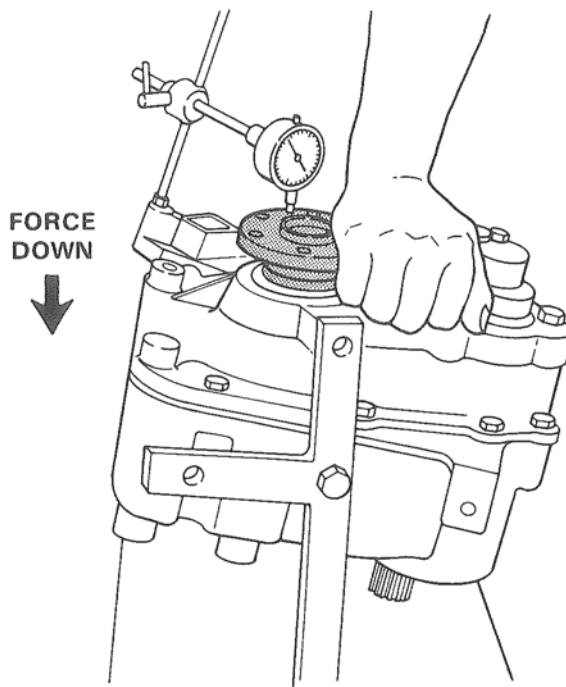

Figure 44. Checking End Play-Downward Force Used.
7. Turn the unit over in the stand and mount a dial indicator on the rear cover so the stem or finger rides on the output flange. Mark a spot on the flange next to the indicator stem. Figure 44.
8. Apply 100-300 lbs. force downward on the flange while rotating the output shaft through two (2) full turns. Continue the pushing force while setting dial